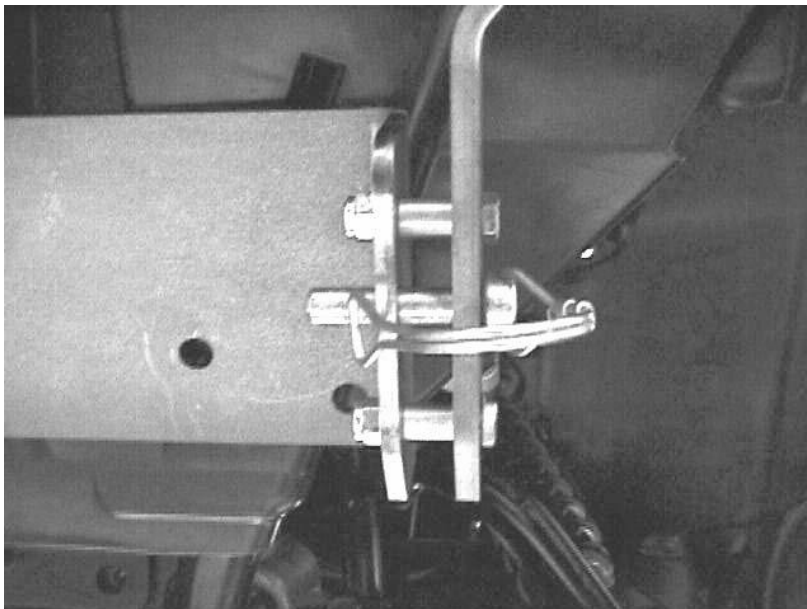

Figure 2
7. Using four ¼" bolts and nuts, attach the cross-member the bracket plates. Each bolt will go through a ½" spacer positioned between the cross-member and the brackets as shown in Figure 2.